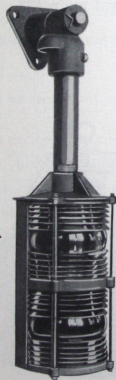

FIG. 2
- Fig. 2 Pivoted Bridge Lamp (red and green)